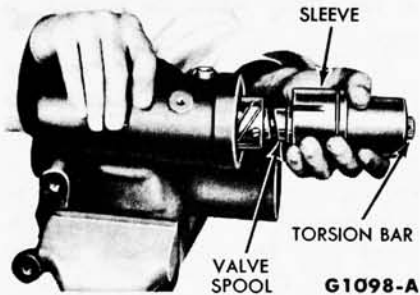

FIG. 32—Removing Torsion Bar and Sleeve
12. Remove the torsion bar and sleeve assembly (Fig. 32), by lightly tapping on the lower end of the torsion bar with a soft-faced hammer.